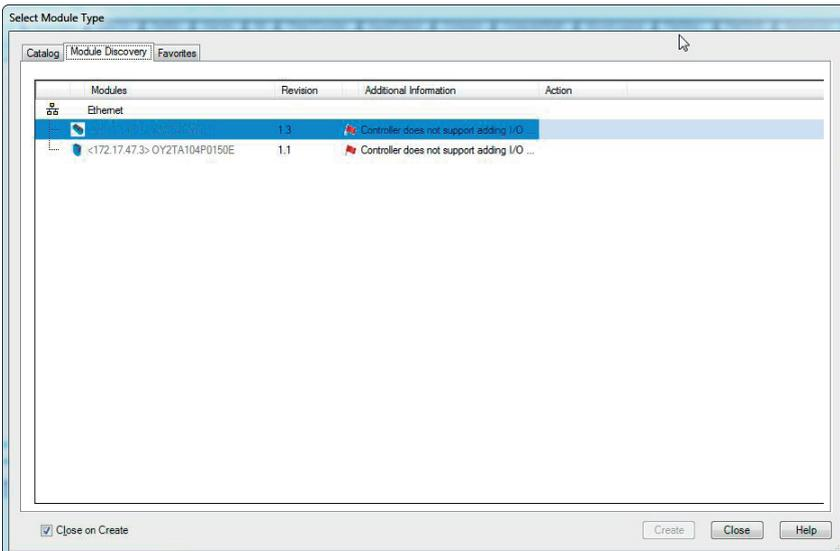
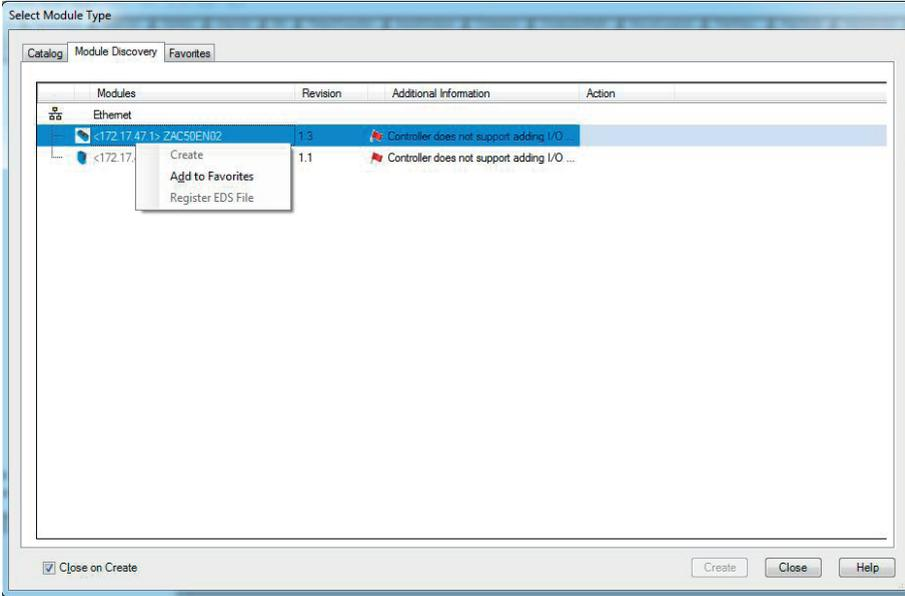
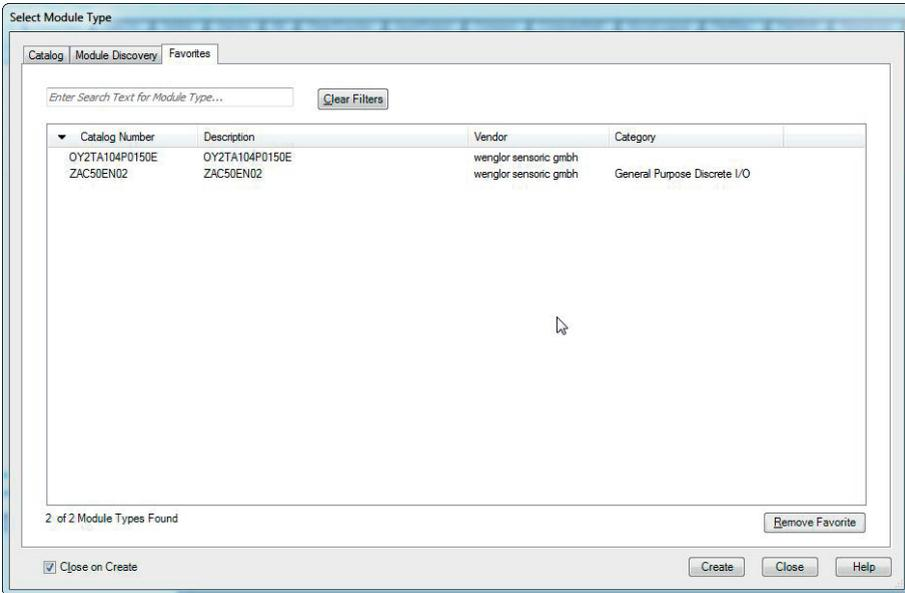

Figure 11: Module Discovery
Figure 12: Add to Favorites
Figure 13: Favorite Devices
- The connected wenglor EtherNet/IP products are then displayed under “Select Module Type” and “Module Discovery” (see figure 11). Products can be added to your favorites by right clicking the respective device (see figure 12). These products are then listed in the “Favorites” tab (see figure 13).